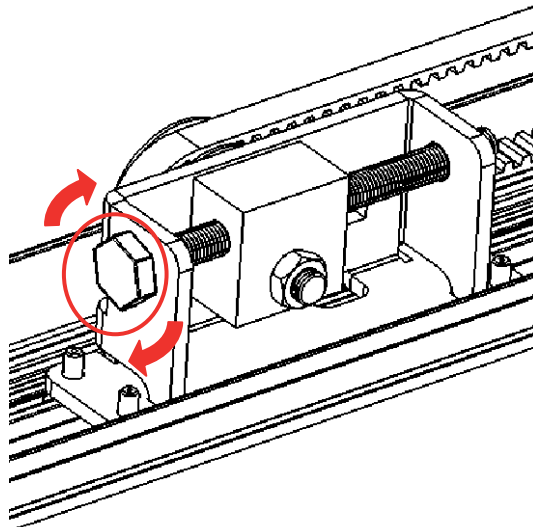

Figure 24: Tighten the belt with the tensioning bolt.
6. Turn the tensioning bolt **clockwise** (Figure 24) to put tension on the belt. **Stop when the belt is pulled straight** and does not sag and is taut.